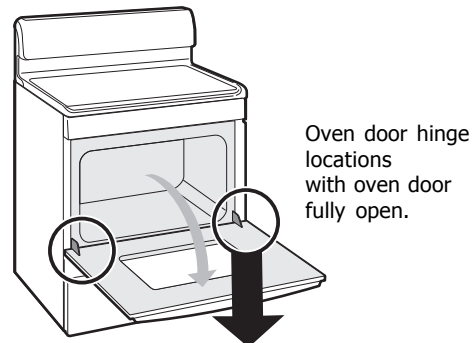

Fig. 1
1. Open oven door completely (horizontal with floor-Fig. 1).